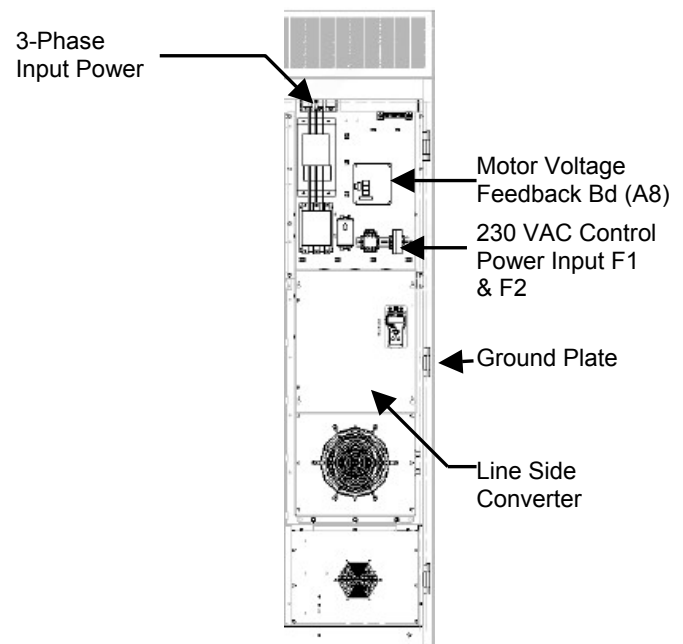
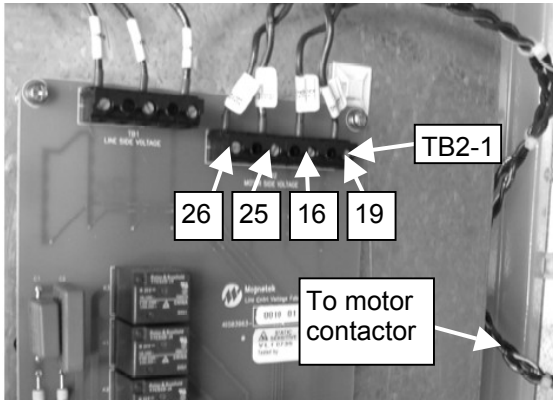

Figure 20: Line Side Module Position
Figure 27: Motor Contactor Connections
2. Next, install the braided electrical ground plate between the two cabinets. The Line Side Converter comes pre-wired with the ground plate pre-attached. See Figure 20 for details on where the ground plates are located. Attach the ground plate to the Motor Side Inverter using the provided four (4) M5 x 9.5mm screws. Use a 8mm hex socket with extension, or #2 Phillips screwdriver with 50-180mm (2-7") shaft. Torque these connections to 4.75-5.20 N-m (42-46 in-lbs).
- Next, connect the wires for the Motor Voltage Feedback. The cables wires are coiled-up in the Motor Side Inverter enclosure. Dress and secure the cable from the Motor Side Inverter to the Line Control and Voltage Feedback PCB (A8) in the Line Side Converter enclosure. See Figure 20 for location of PCB A8. Connect the wires by the following table torqued to 0.23-0.28 N-m (2-2.5 in-lbs). For location of connections, refer to Figure 27.